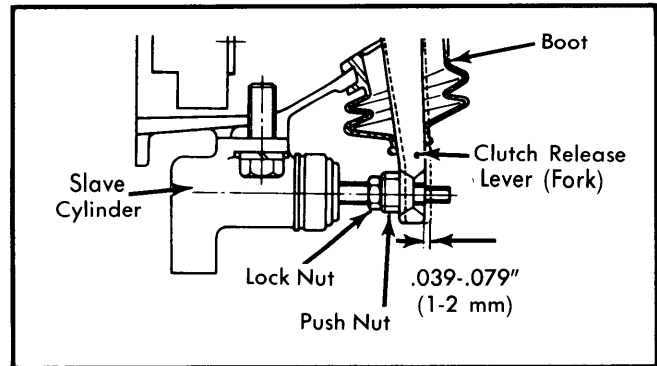

Fig. 6 Clutch Fork Free Play Adjustment Locations for Datsun B210
- 1) Loosen lock nut and push nut. See Fig. 6.